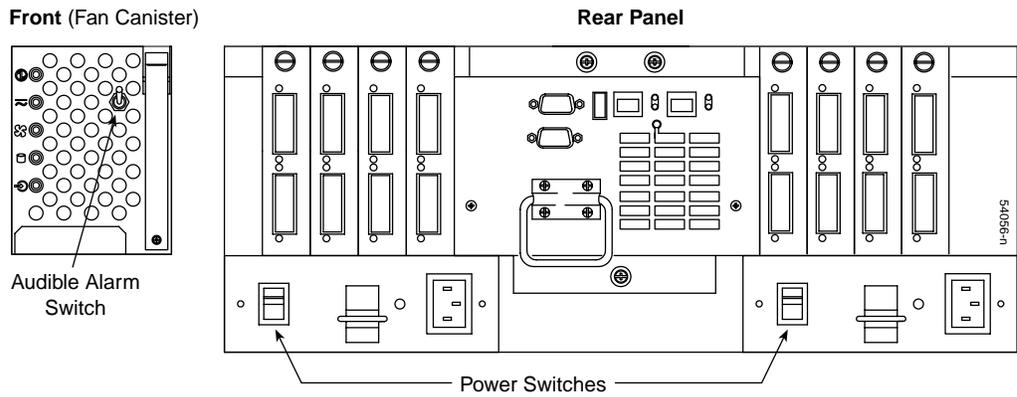

Figure 8-17 The Controller Enclosure Power Switches and Alarm Switch
10. Turn on both power switches on the rear of each controller enclosure (Figure 8-17).
11. Arm the optional alarm switch by setting it to the up position (Figure 8-17).